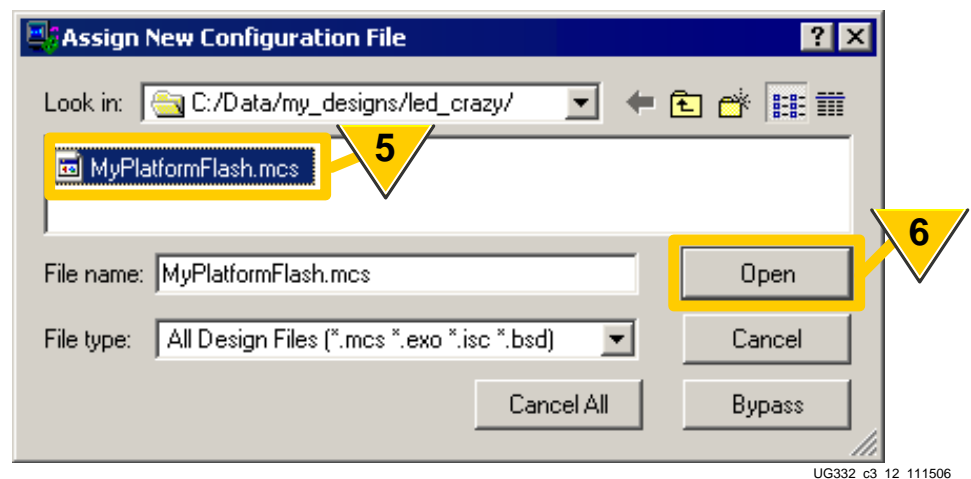

Figure 3-17: Select the Platform Flash Programming File
5. As shown in Figure 3-17, select the PROM data file to be programmed to the Platform Flash PROM.